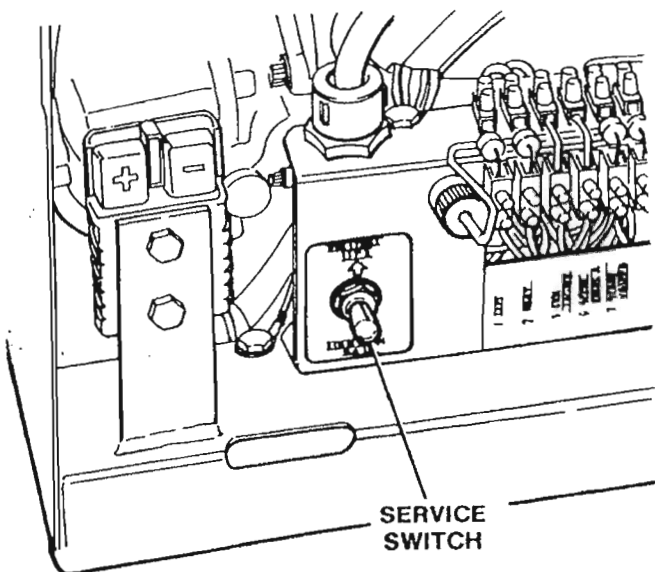

Figure 5. Service Up/Emergency Down Switch
**SERVICE UP/EMERGENCY DOWN OPERATION.** A toggle switch activates the hydraulic elevating mechanism to lift the platform from ground level. It is located on the electrical panel inside the electrical/hydraulic components tray (figure 5).